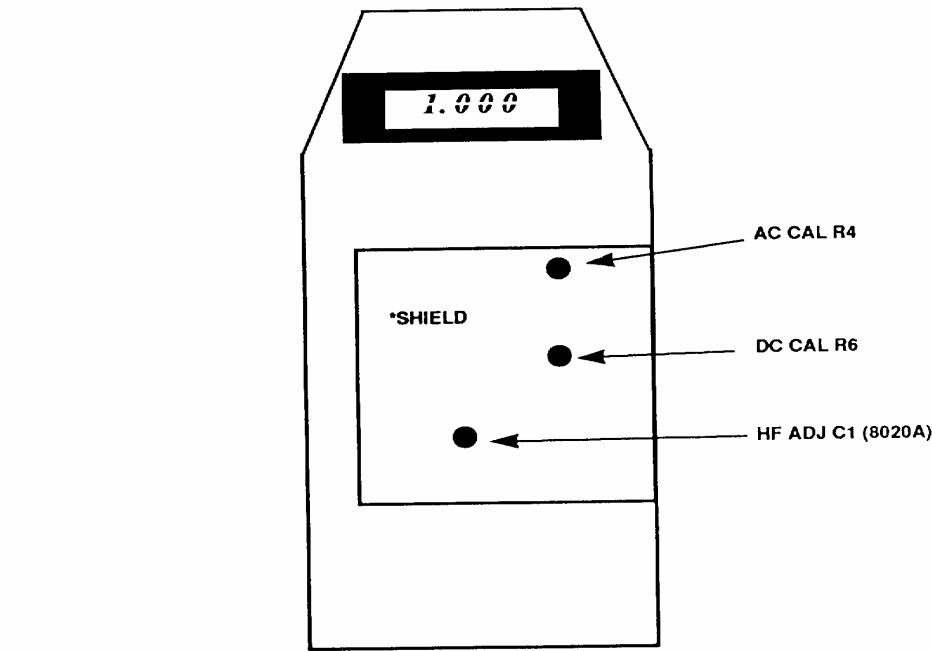

Figure 1. Adjustment locations.
**b. Adjustments.** Set TI range to 200 mV and calibrator for a 190 mV dc output. Adjust DC CAL R6 (fig. 1) for a TI indication of 190.0 (R).
- (1) Set TI range to **200 mV** and calibrator for a 190 mV, 45 Hz output. Adjust AC CAL R4 (fig. 1) for a TI indication of 190.0(R).
- (2) Set TI range to **2** and calibrator for a 1.9 V, 2 kHz output. Adjust HF ADJ C1 (8020A) (fig. 1) for a TI indication of 1.900 (R).